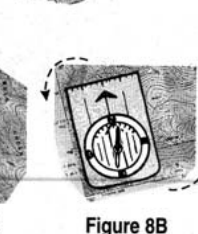

Figure 7B
- Hold compass level. Turn body until the Red tip of the Magnetic Needle registers on the Correction scale of the declination for the map sheet. You will be facing the Magnetic Bearing needed to get you to your destination. (Figure 7B)